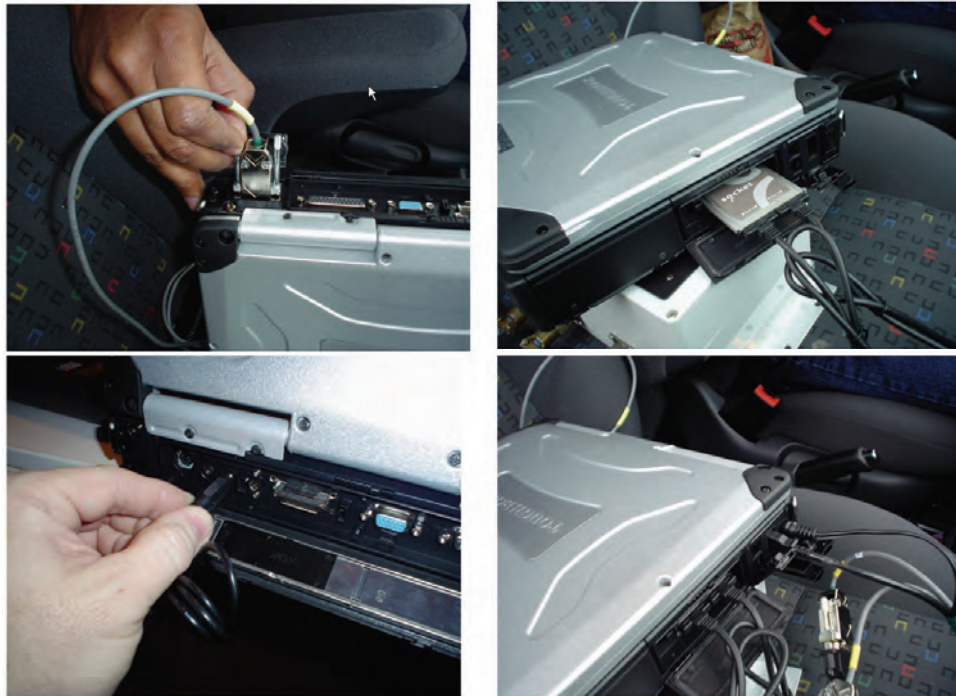

Figure A1. Laptop connections
1. Connect the appropriate cables to the Laptop (see Figure A1).